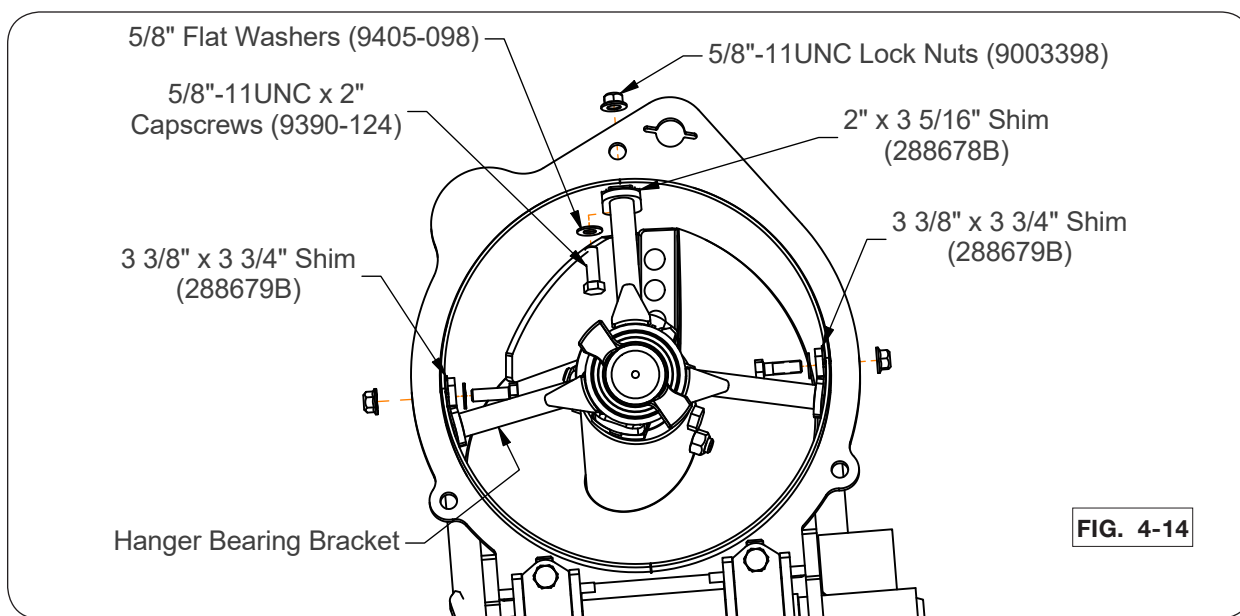

FIG. 4-14
2. Remove the three 5/8"-11UNC x 2" capscrews (9390-124), 5/8" flat washers (9405-098), 5/8"-11UNC lock nuts (9003398) and shims that secure the hanger bearing bracket to the auger tube. (FIG. 4-14)